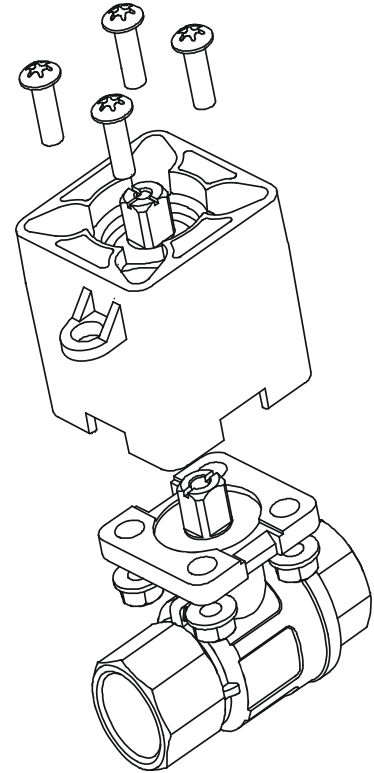

Figure 7: Installing the Barrier
Figure 7 shows the optional -HT Thermal Barrier.
3. Mount the thermal barrier onto the valve using the four included M5x16 mm machine screws and four M5 flange nuts. Tighten the screws to a recommended torque of 21 to 25 lb·in. (2.4 to 2.8 N·m) (Figure 7).